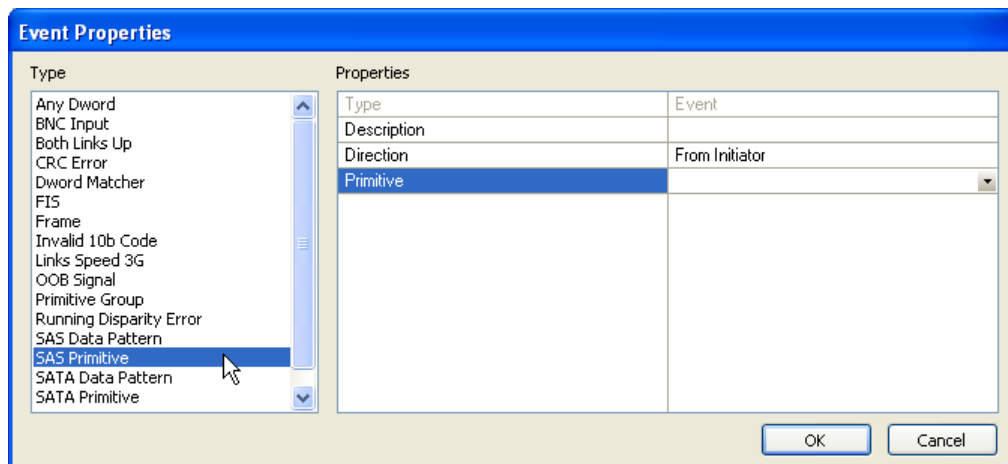

Figure 5.6 Example 1: Event Properties Dialog Box
- Step 3 The Event Properties dialog box appears (Figure 5.6). In the Type column on the left, choose **SAS Primitive**.